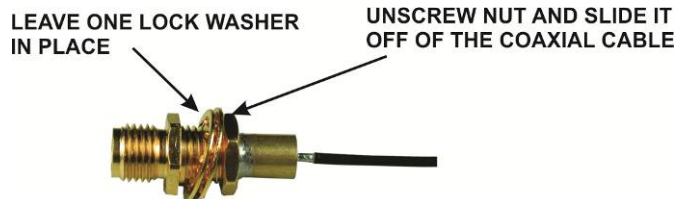

Figure 9. Preparing the SMA Connector for Installation.
□ Locate the miniature coaxial cable with the SMA connector at one end. If the connector has a nut and lock washer on it (see Figure 9), remove only the nut, sliding it down and off the end of the coax. If your connector does not have the nut and lock washer on it, locate them in the hardware bag and slide the lock washer onto the connector.